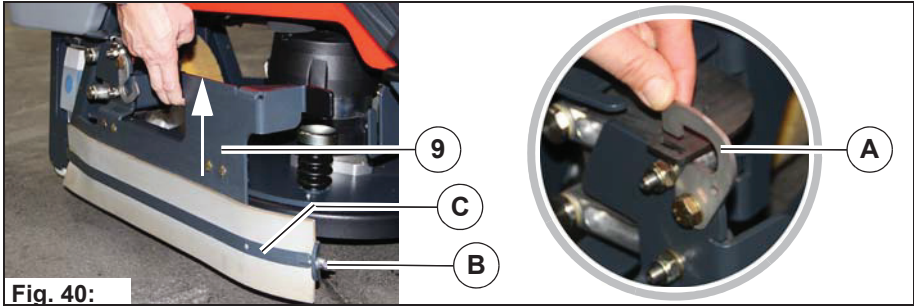

Fig. 40:
1. Loosen the wing nut **Fig. 40-B**.
2. Remove the clamping band **Fig. 40-C**.